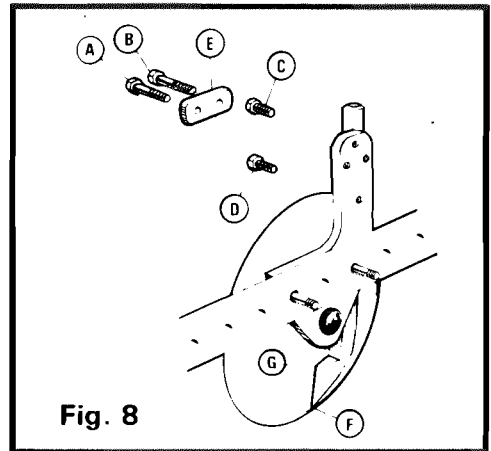

Fig. 8
12. THE SEED TUBE COULTER ADJUSTMENT (See Fig. 8)